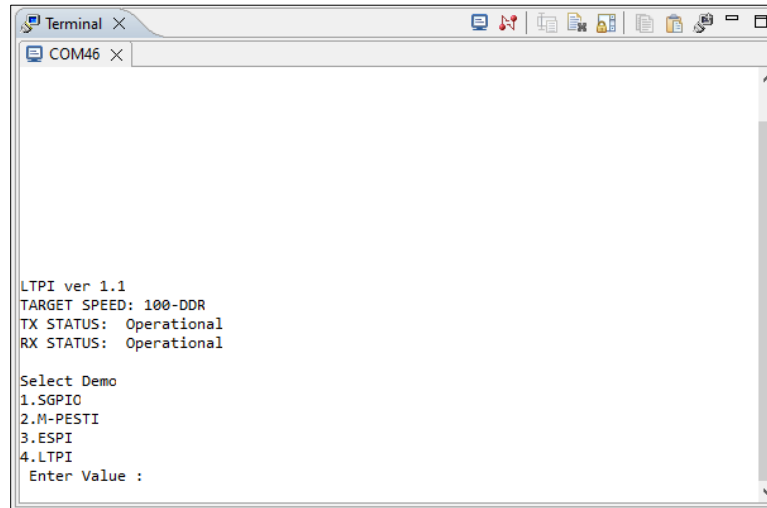

Figure 6.3. UART Terminal upon HPM Power On
- Upon power on, you can see the print output below in the UART terminal (Figure 6.3).
- As shown in Figure 6.3, UART prints the output indicating that RX and TX terminals are on operational mode with the target speed of 100 MHz at double data rate.